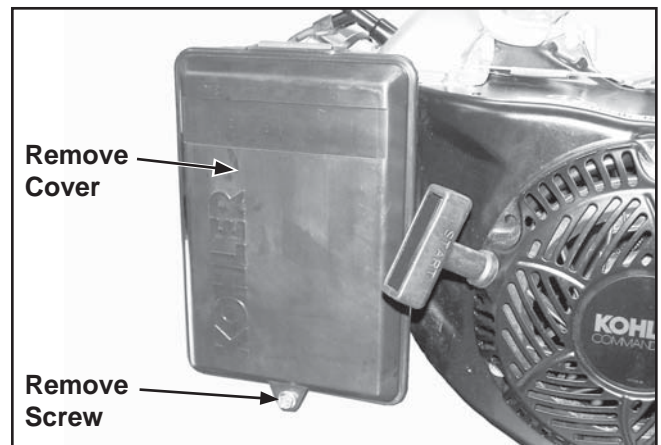

Figure 4-7. Remove Screw and Cover.
1. Remove the screw at the bottom of the air cleaner cover, and remove the cover. See Figure 4-7.